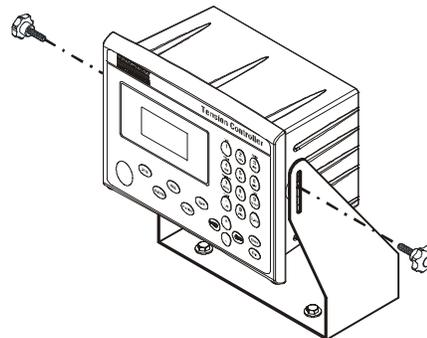

FIG. 4 TENSION CONTROLLER/INSTALLING IN A SWIVEL MOUNT
- Step 2. Place the Tension Controller between the Swivel Mount brackets so that the threaded holes in the instrument are aligned with the slots in the Swivel bracket. (See Fig.4)